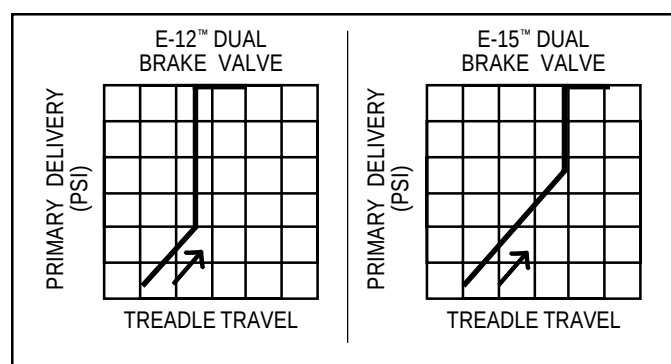

FIGURE 2 - TREADLE TRAVEL VERSUS DELIVERY PRESSURE
The E-12™ and E-15™ brake valves are similar in design with the exception of the rubber spring (9) and spring retainer (7) located in the upper body. The rubber spring which is used in the E-12™ brake valve alters the performance of the valve such that the primary circuit delivers full reservoir pressure to the spring brakes with less treadle travel than that of the E-15™ brake valve. See Figure 2 for delivery pressure versus treadle travel diagram. The greater treadle travel of the E-15™ brake valve yields a more gradual delivery of air to the spring brakes resulting in a less sensitive "feel" to the driver when a brake application is made. This characteristic makes the E-15™ brake valve more adaptable to transit vehicle applications where smooth brake applications contribute to passenger comfort.